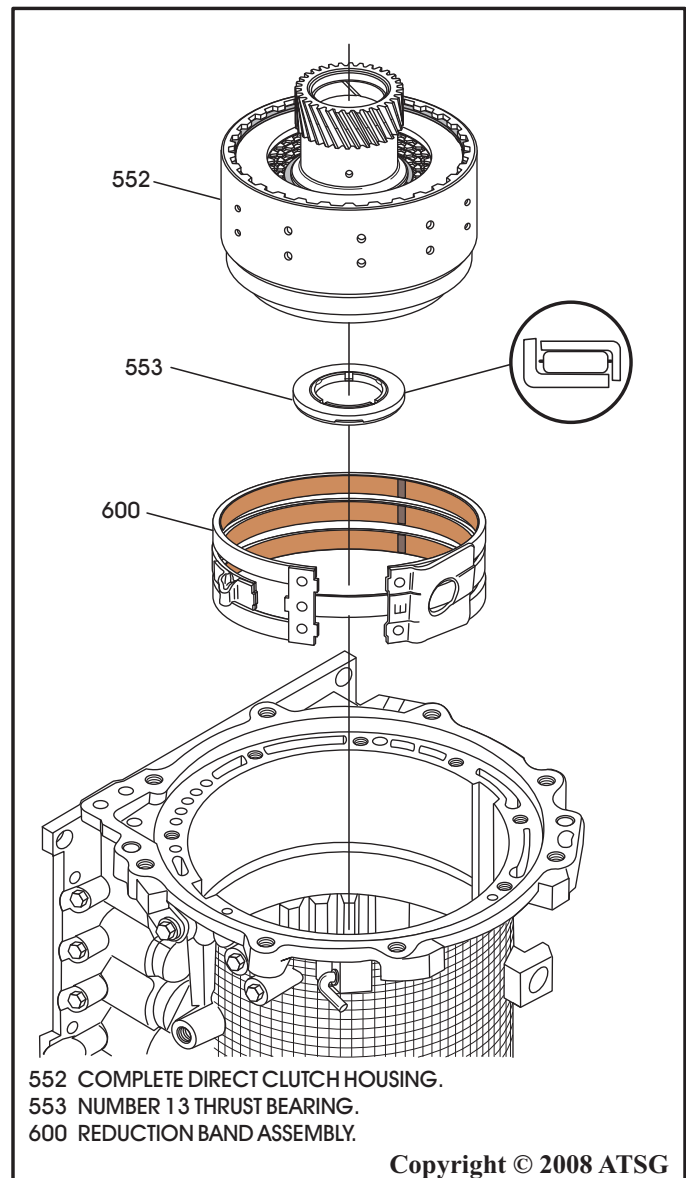

Figure 185
5. Install the reduction band into case, as shown in Figure 185, and ensure it is engaged on the band anchor plug.
6. Ensure that number 13 thrust bearing is still stuck in place, in the direct clutch housing, as shown in Figure 185, and install direct clutch housing by rotating clockwise into the case.